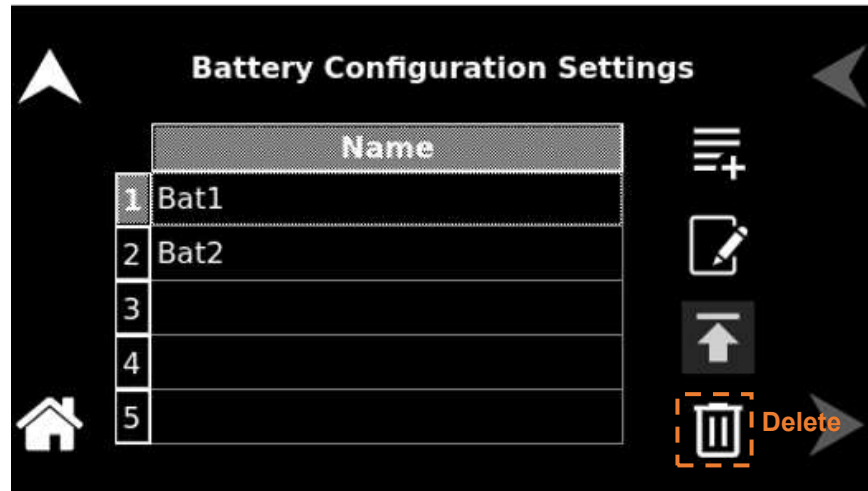

**Figure 13-23. BATSIM Configuration Settings - Upload Disabled and Delete option**
- The 'Upload button' will be disabled when the battery configuration is uploaded to the unit. Refer to Figure 13-23.
- Click on 'Delete' to remove the selected battery configuration. Refer to Figure 13-23.